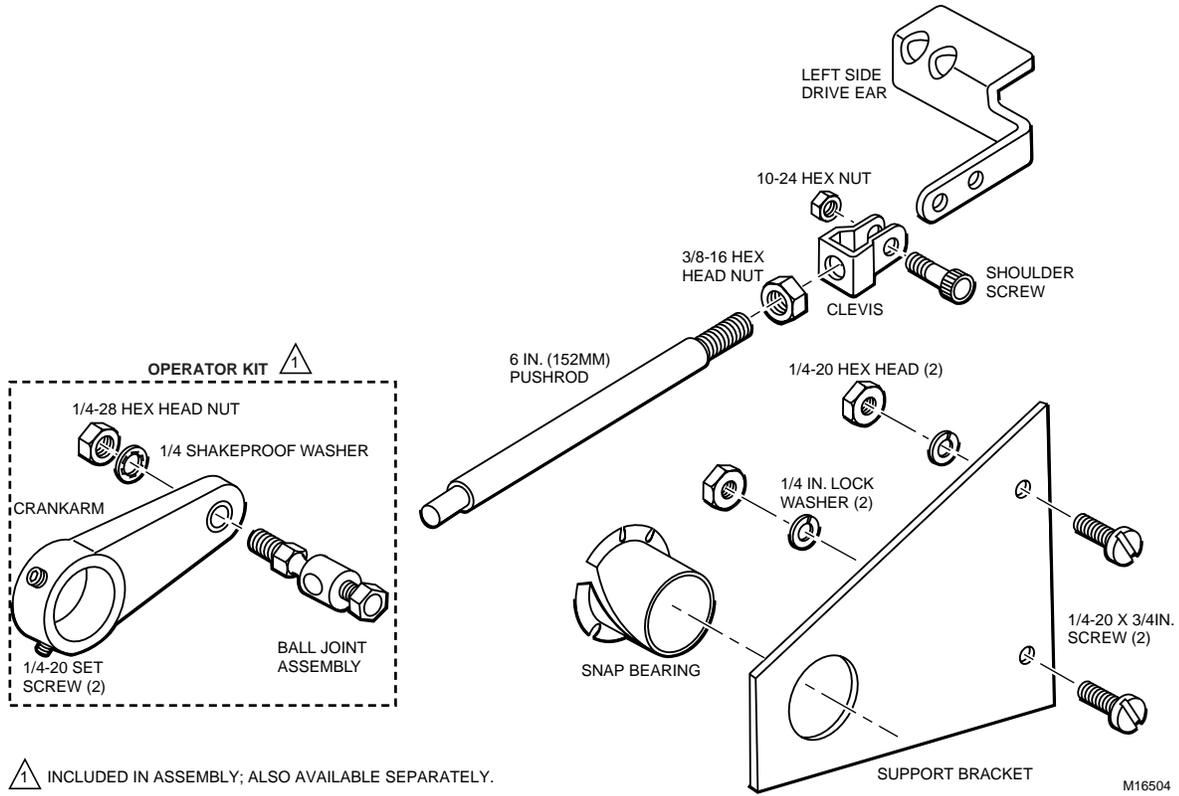

Fig. 22. End Kit Assembly.
Damper jackshaft installation uses combinations of three separate kits for different installations (illustrated in Fig. 22 and 23). Fig. 24 and 25 illustrate typical installations for normally closed or normally open dampers. Review these figures carefully before installing.
- 15753693-001 End Kit (Fig. 22 and Table 2), one for each installation.